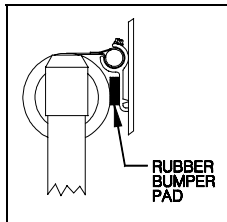

Figure 4
- C. Verify that the roller end cap is positioned just below the bottom of the awning rail slot and resting against the protective bumper. (Figure 4)